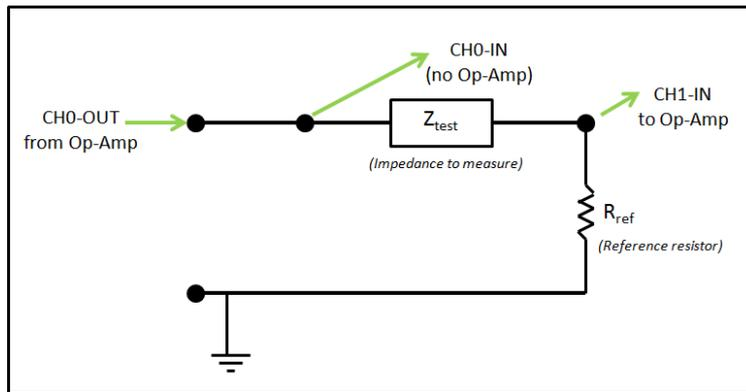
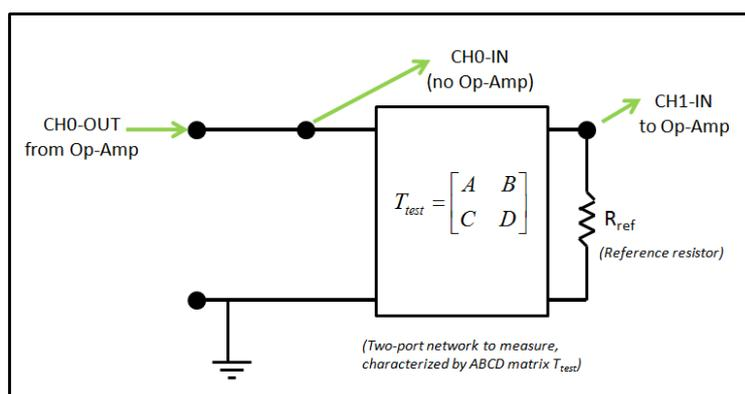

Figure 5: Circuit to measure a test impedance. The reference resistor  $R_{ref}$  should have an impedance magnitude similar to the test impedance.
Figure 6: Circuit to measure a *2-port* network. The reference resistor  $R_{ref}$  should have an impedance magnitude similar to the test impedance.
2. Impedance-measurement circuit: Build the circuit shown in Figure 5, connecting to the op-amps and the MU box as shown in the diagram. Using a voltage divider with a reference resistor  $R_{ref}$ , you will be able to measure an unknown impedance  $Z_{test}$ .
- (a) Place a “test resistor” (of known impedance) in series with the reference resistor  $R_{ref}$ . Your test resistor should occupy the place of  $Z_{test}$  in Figure 5.
- (c) Use two inputs (into the MU-box), taken across the ‘test resistor’ terminals. CH0-IN should be connected to the “high” side of the speaker, and CH1-IN connected at the place where the speaker and reference resistor are joined, as described in Fig. 5.
*NOTE: Every time you set up your lab circuit for the day, we suggest that you do a quick test with a resistor, as in Lab 1 (Fig. 5) to make sure everything is running properly!!!*
You will measure two networks provided to you, a **low-pass filter** and a **twin-T** network. Your test circuit should be a slightly modified version of the circuit from Lab 1 (Fig. 5), as shown in Figure 6. The primary difference is that the unknown two-port network you want to test has a ground terminal. The relationship between the two sides of the unknown two-port is given by the transmission matrix
This is the first lab to work with a real loudspeaker, shown in Figure 7. These speakers are of low quality (the cone is made of cardboard!), but you will still be able to recognize audio signals you play through them. In this lab you will measure the electrical input impedance Eq. 1, where  $V$  is the voltage across the speaker and  $I$  is the current through it. The loudspeaker will be in **series** like your resistor from Lab 1, so you should connect the loudspeaker according to Figure 5. The loudspeaker has two terminals; the direction of the terminals should not matter.